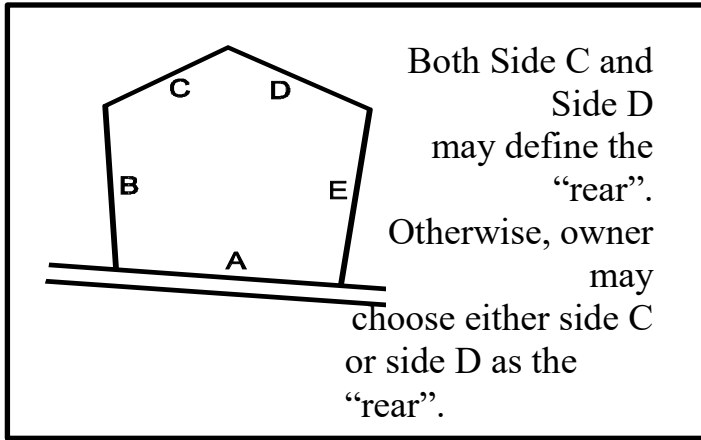

Figure 4: Example of lot with more than four sides.
- 2. Rear setback: A property line which most nearly parallels the front line (see Figure 4, sides C or D) shall be used to determine the rear setback. If two property lines are close to satisfying this requirement, the Owner/Owner’s Agent, in consultation with the ACC, may choose one of these lines to be the rear.